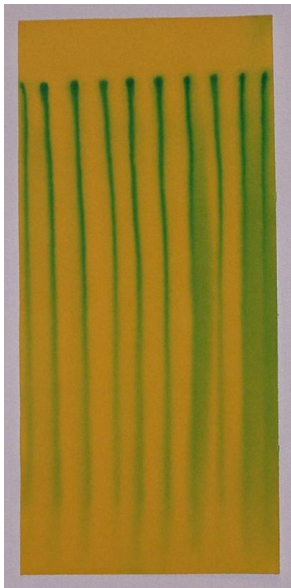

Fig. 2
- Use the velour paper sheet without cut-outs. The colour lines run vertically at regular intervals (refer to fig. 2).